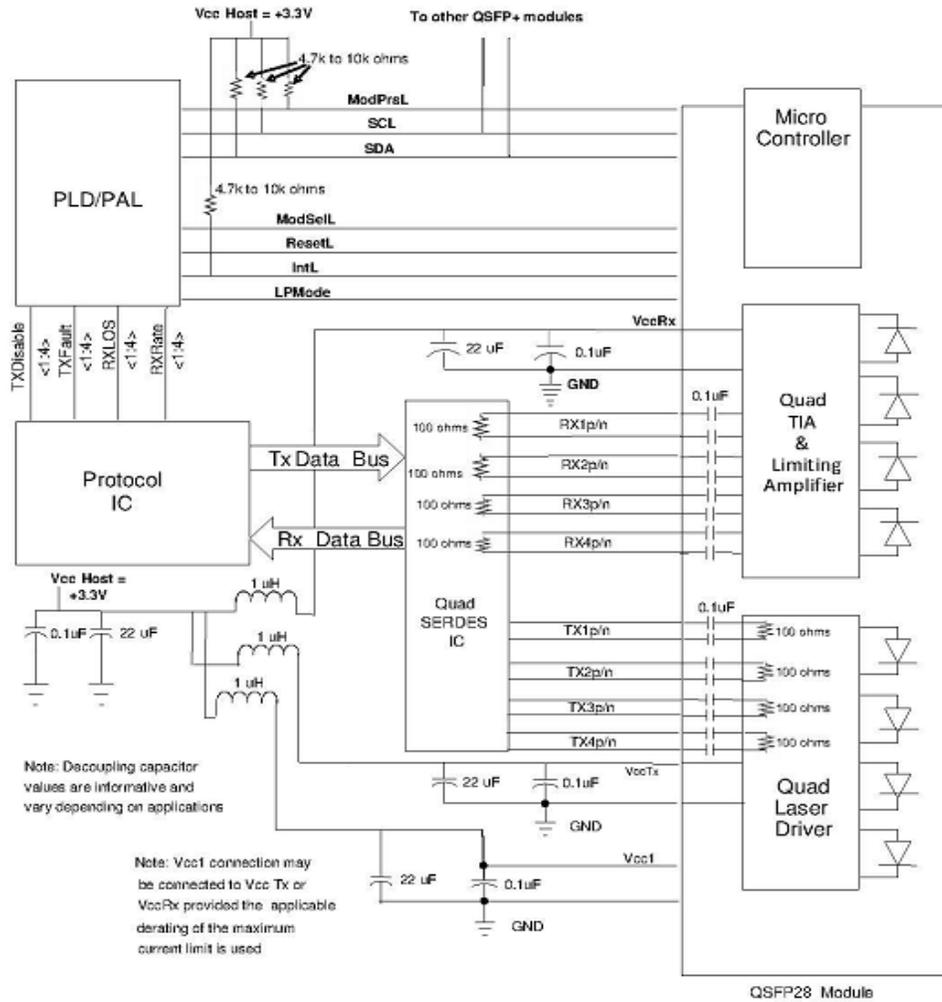

Figure 4. Host - Transceiver Interface Block Diagram
- b) VccRx, Vcc1 and VccTx are the receiver and transmitter power suppliers and shall be applied concurrently. Recommended host board power supply filtering is shown in Figure 4 below. Vcc Rx, Vcc1 and Vcc Tx may be internally connected within the QSFP28 transceiver module in any combination. The connector pins are each rated for a maximum current of 1000m